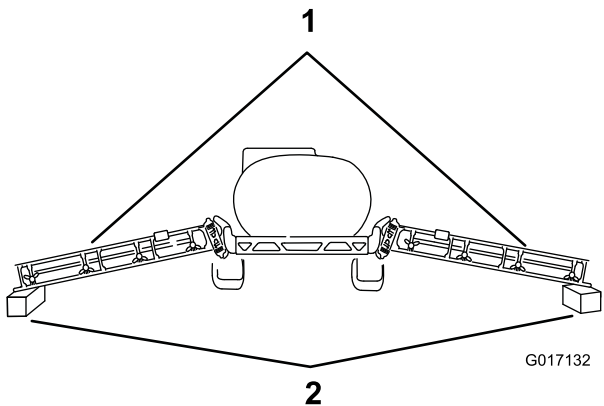

Figure 8
3. Carefully lower the outer-boom sections onto wooden blocks about 10 cm (4 inches) high as shown in Figure 8.